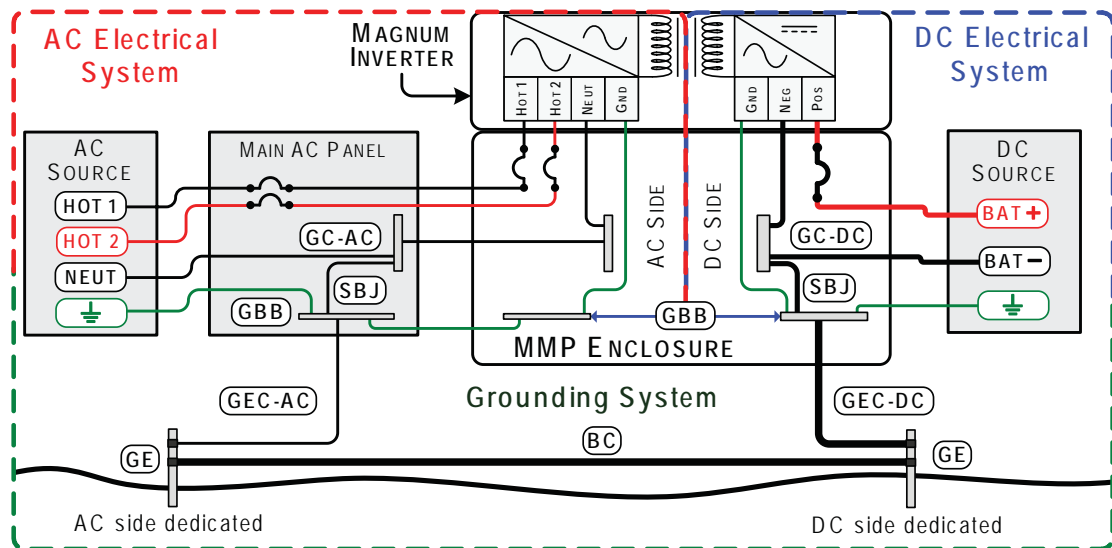

Figure 3-21, Multiple Connections to DC Ground Rod (Method 3)
3. **Multiple Connections to Ground - Multiple Electrodes (Method 3):** This method uses a separate Grounding Electrode for the DC system and the AC system (see Figure 3-21). In this method — since there are multiple connections to the DC Grounding Electrode (GEC – DC) — the size of the DC grounding electrode conductor cannot be smaller than the largest conductor in the DC system (usually the battery-to-inverter cable).